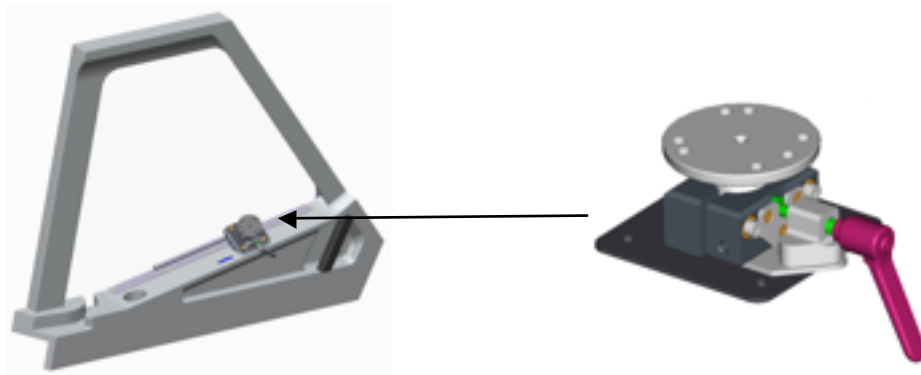

FIGURE 3:
- » Modification to the existing captain's side window trim by adding four (4) holes to allow spacers to contact the mounting brackets under window trim that are attached to the window frame. The mounting plate assembly and EZMount Pivot is then installed on the top surface of the spacers. See Figure 3.